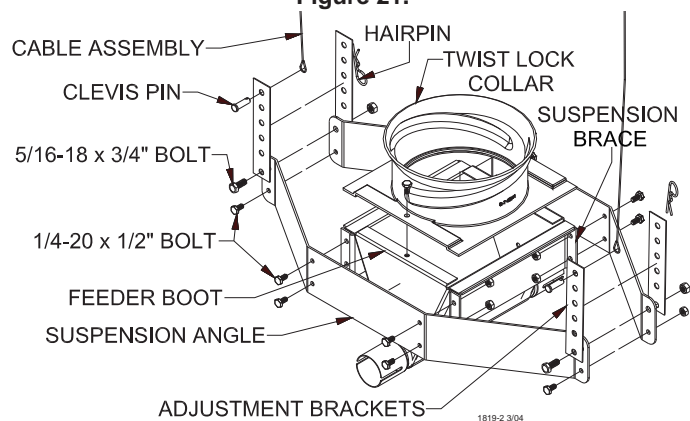

Figure 22.
4. Assemble suspension angles and suspension braces around feeder line boot (single or twin), using 1/4-20 x 1/2" Hex bolts and nuts (supplied in hardware package), see **figure 22**.
5. Assemble the twist lock collar to the top of the feeder line boot (single or twin) using 1/4-20 x 1/2" bolts and lock nuts (supplied in hardware package), see **figure 22**.
7. Two cable assemblies (cable with a sleeve clamp and a 5/32 thimble) are supplied with the suspension kit to support the hopper. Attach the cable assemblies to the adjustment brackets using the top holes of the adjustment brackets, see **figure 22**.